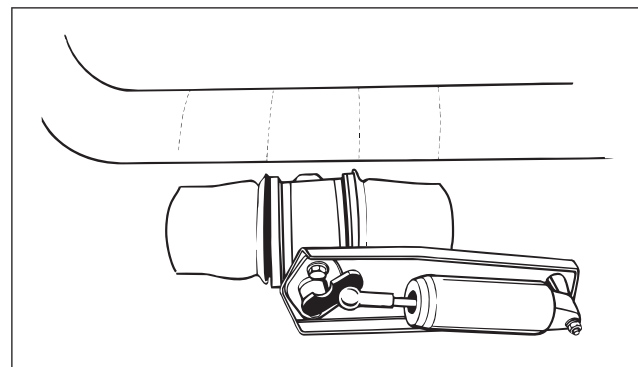

FIG. 4
3. Lay the exhaust pipe on the ground or bench with the E Brake and exhaust pipe sleeves, P/N 3929059 (see Fig. 4) and mark the pipe section to be removed. Cut out the necessary pipe section, ensuring the cut is square to the pipe. Weld the sleeve to the two exhaust pipe lengths.